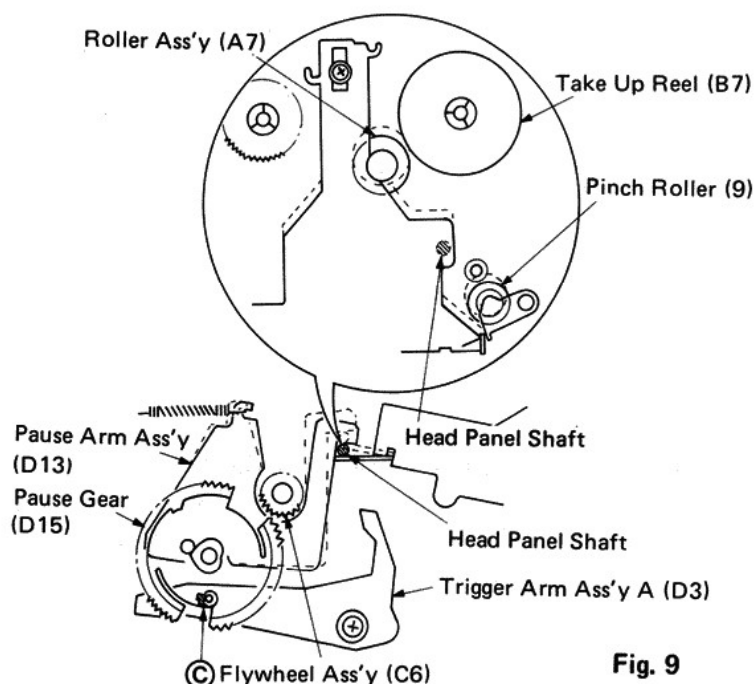

Fig. 9
- 4 Shortly after passing over the peak point of backward movement, point ③ of the trigger arm assembly A (D3) functions as a stopper which suspends rotation of the pause gear (D15). Since part of the teeth of the pause gear are missing on the flywheel side at that time, the pause gear stops rotating.
- 5 When the head panel makes a backward motion, the pinch roller (9) detaches from the tape so there is no contact between the roller assembly (A7) and the take-up reel assembly (B7). Therefore the mechanism is in the PAUSE MODE. (Fig. 9)